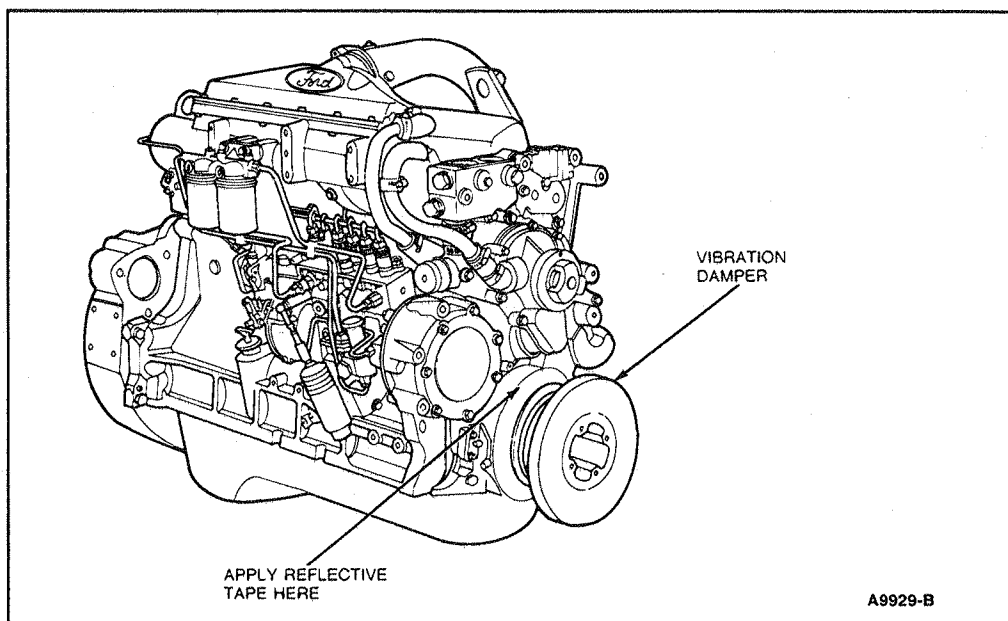

Figure 11 Reflective Tape Application
1. Clean crankshaft vibration damper and apply reflective tape at point shown in Figure 11.